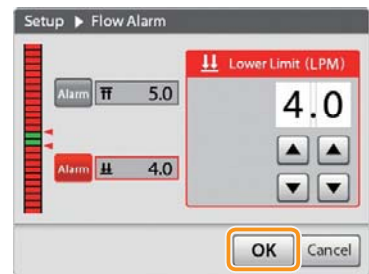

Figure 3-6
6. Tap [OK] to complete the setting. (Figure 3-6)